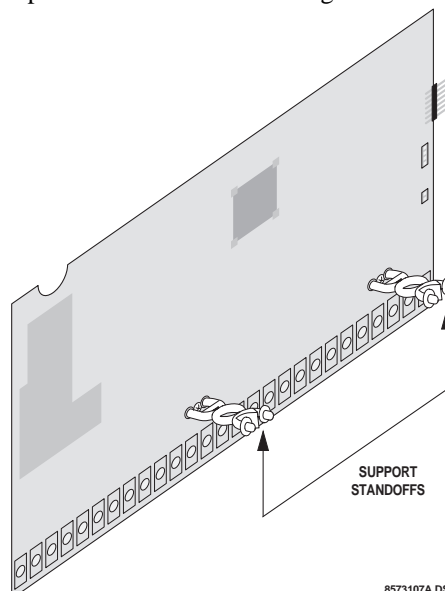

Figure 2. Installing Panel Support Standoffs
2. Install the support standoffs (included with panel) at the panel locations shown in Figure 2.